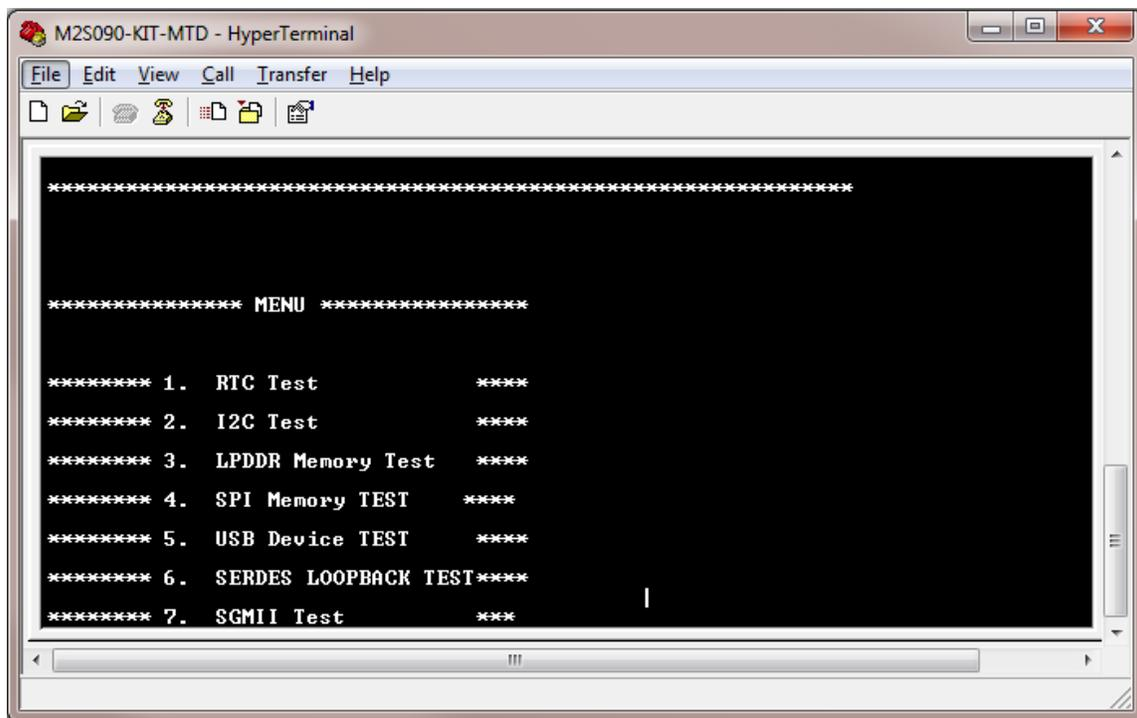

Figure 37 Test Menu
2. When the set up completed, all tests are listed in the HyperTerminal window as shown in Figure 37. If this message does not appear, press the **SW6** reset switch again. If the message still does not appear, then check all the jumpers and the HyperTerminal settings.